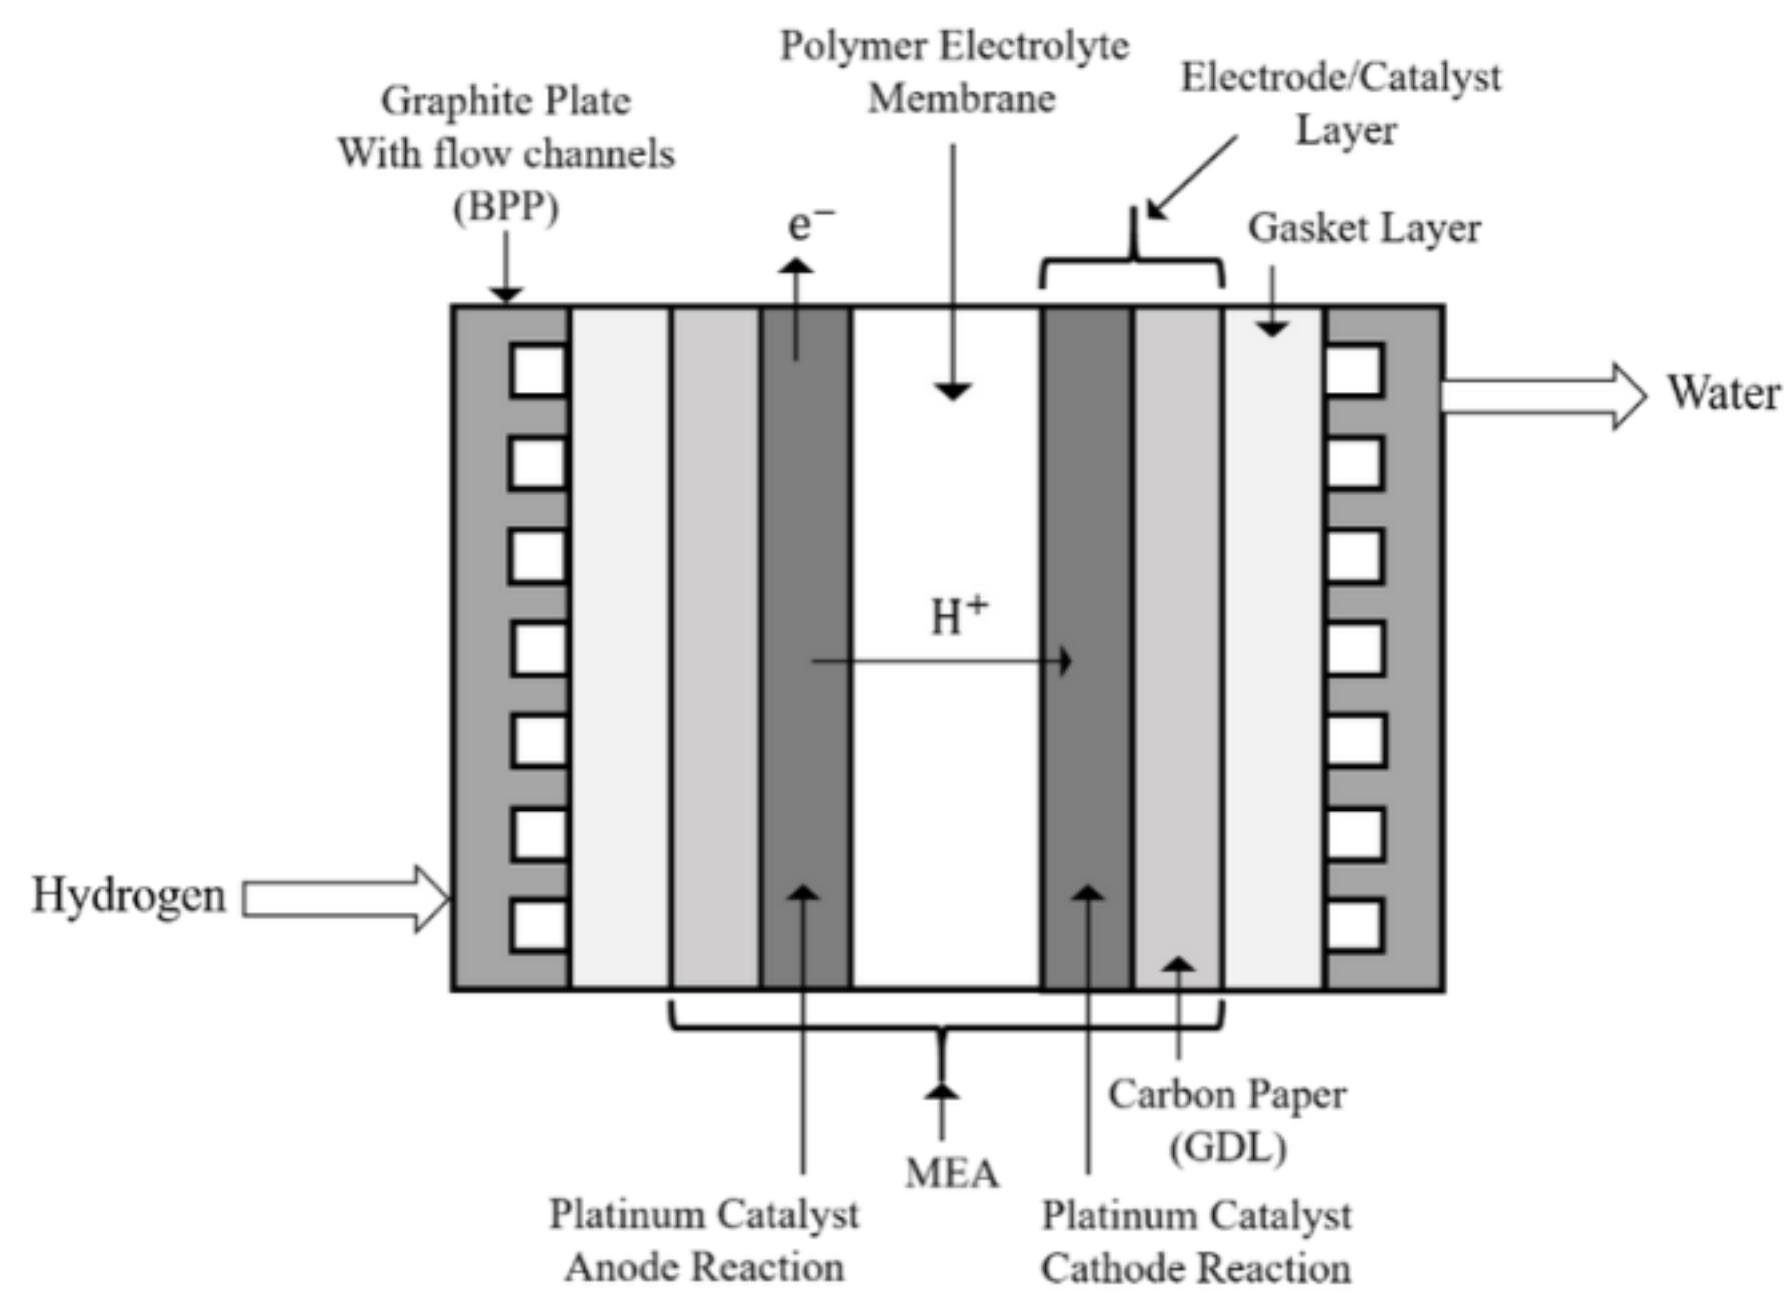

Fig.2 Schematic of a Single unit PEM Fuel Cell
Polymer electrolyte membrane fuel cells (PEMFCs) generally convert hydrogen energy into electricity using hydrogen and oxygen through an electrochemical reaction. The advantage of this fuel cell is that it has a high energy efficiency of about 60%, light weight, high power density and quick startup. The main components of PEM fuel consist of as shown in the above Fig 2. Are Bipolar plates (BPP), the membrane electrode assembly (MEA) and gasket. MEA, is the main component consisting of Polymer electrolyte membrane (PEM), Gas Diffusion Layer (GDL) and catalyst layer (CL). Hydrogen is mainly used as the fuel and it is supplied from a flow channel on the anode side. The Platinum based catalyst breaks hydrogen into positive hydrogen ions and negatively charged electrons. The electrolyte membrane only allows the positively charged ions to pass through which forces the electrons to travel along an external circuit to the cathode as a result an electrical current is created. On the cathode side, oxygen from air is supplied from the flow channel as the oxidant. Oxygen diffuses through the gas diffusion layer and reaches cathode's catalyst layer. Oxygen molecules react with the electrons and proton  $H^+$ , which have been transferred from the anode to form water at the catalyst membrane interface.